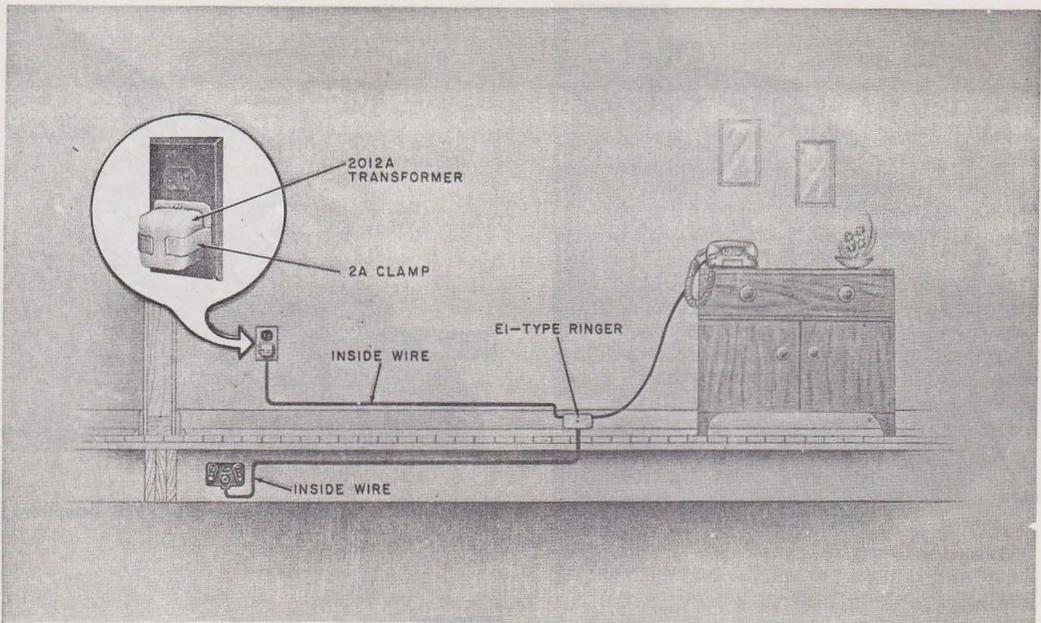

Fig. 4—Typical Installation of 701B Telephone Set
**3.04** When an external ringer is required, install an E1-type with each 701B telephone set (Fig. 4).